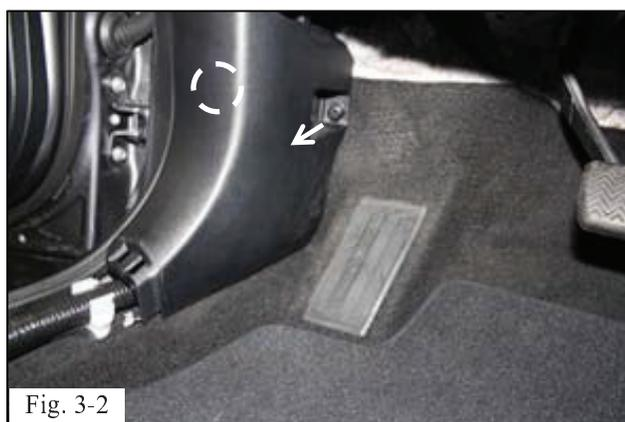

Fig. 3-3
- (2) Pull the cover straight away from the body to detach the plastic clip (Fig. 3-3).
- (3) If a plastic clip remains attached to the body, remove it and inspect it for damage. If it is not damaged, reattach it to the cowl cover; otherwise replace it with a new one.